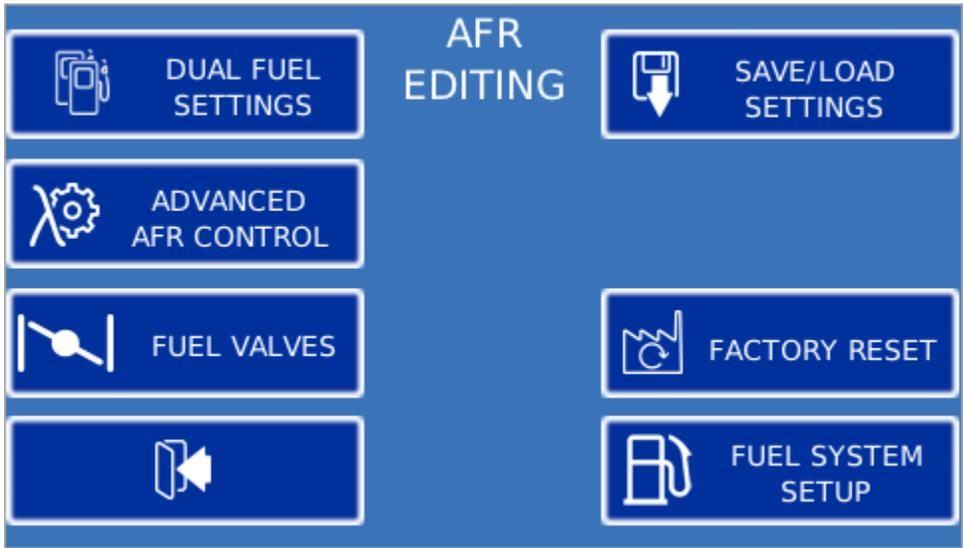

Figure 8-AFR Edit Menu
5. Press and hold the “EDIT” button until the screen changes to that shown in Figure 8.